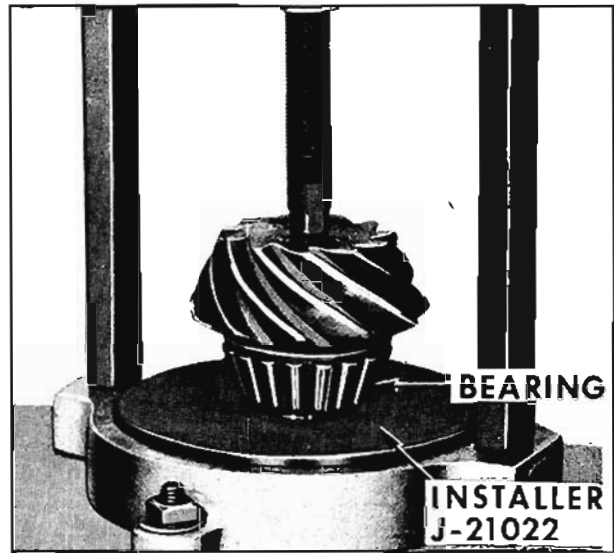

Fig. 10-122 Installing Rear Pinion Bearing
13. Position correct shim on pinion shaft and install rear pinion bearing. Use Installer J-21022 as shown in Fig. 10-122.
quire replacement of gear set. If gears are in good condition, slide pinion shim onto pinion shaft and install rear pinion bearing on pinion using Installer J-8609 in a press or as shown in Fig. 10-122.